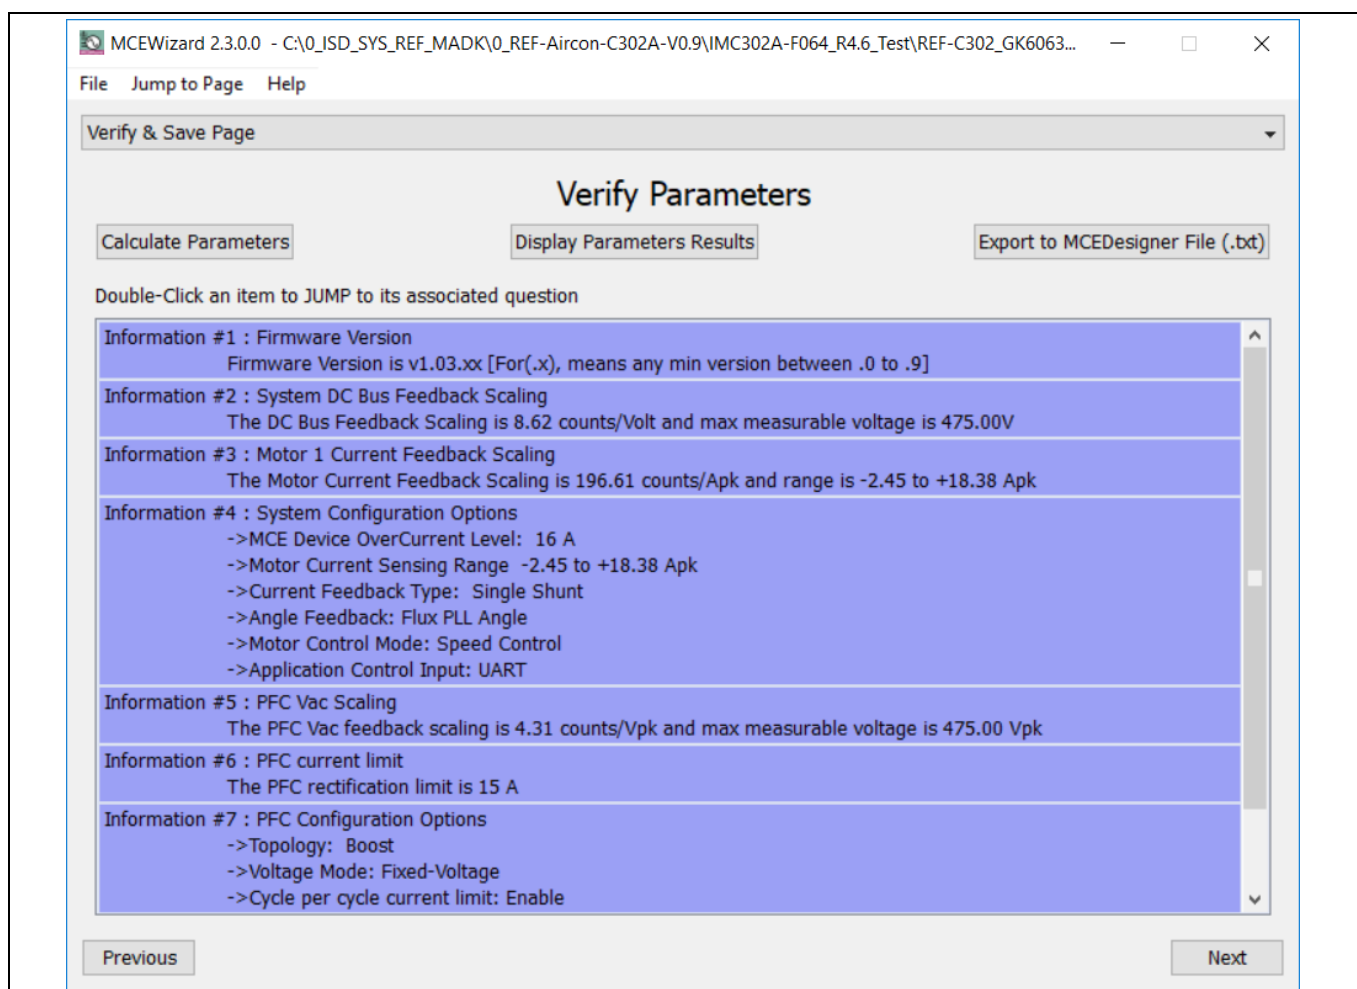

Figure 5 MCEWizard Verify and Save page
3. After system and operating parameters are set, go to the "Verify & Save Page" and click on "Calculate Parameters" button. If no errors are reported, then save the drive parameter set into your project directory by clicking "Export to MCEDesigner file (.txt)" (Figure 5); if an error is detected, double-click on the error message (highlighted in **RED**) and adjust the related parameter. The saved drive system parameter file will be later used by the MCEDesigner in step 9.